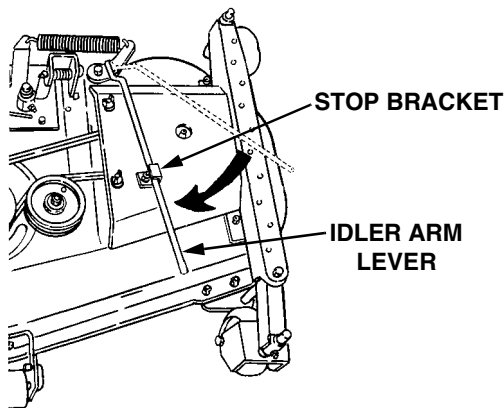

Figure 40
17. While holding the belt in position, rotate the deck idler arm lever into its stop bracket to tension the PTO belt (Refer to Figure 40). Make certain the PTO belt is properly positioned in the PTO clutch pulley and both lower front pulleys. Reposition if necessary.